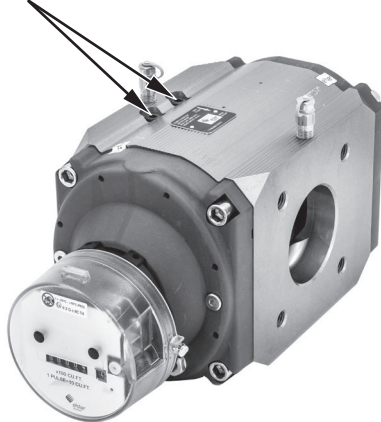

Figure 18. Auxiliary ports
All RABO meters come equipped with two (2) ¼" NPT auxiliary ports on the meter body [Figure 18], which can be used for sensing pressure and temperature of the flowing gas. A thermowell is required when using a temperature sensing device. Thermowells are available as accessories to the meter.